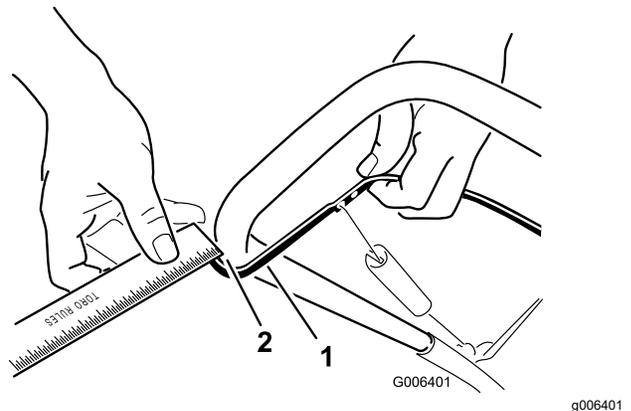

Figure 21
Note: Ensure that a 2 to 3 mm (1/16 to 1/8 inch) gap exists between the control bar and the handle (Figure 21).
Move the control bar back toward the handle to remove the slack in the control cable (Figure 21).
- Move the Z-fitting to a higher or lower hole on the adjuster link as needed to obtain the 2 to 3 mm (1/16 to 1/8 inch) gap between the control bar and the handle (Figure 21).